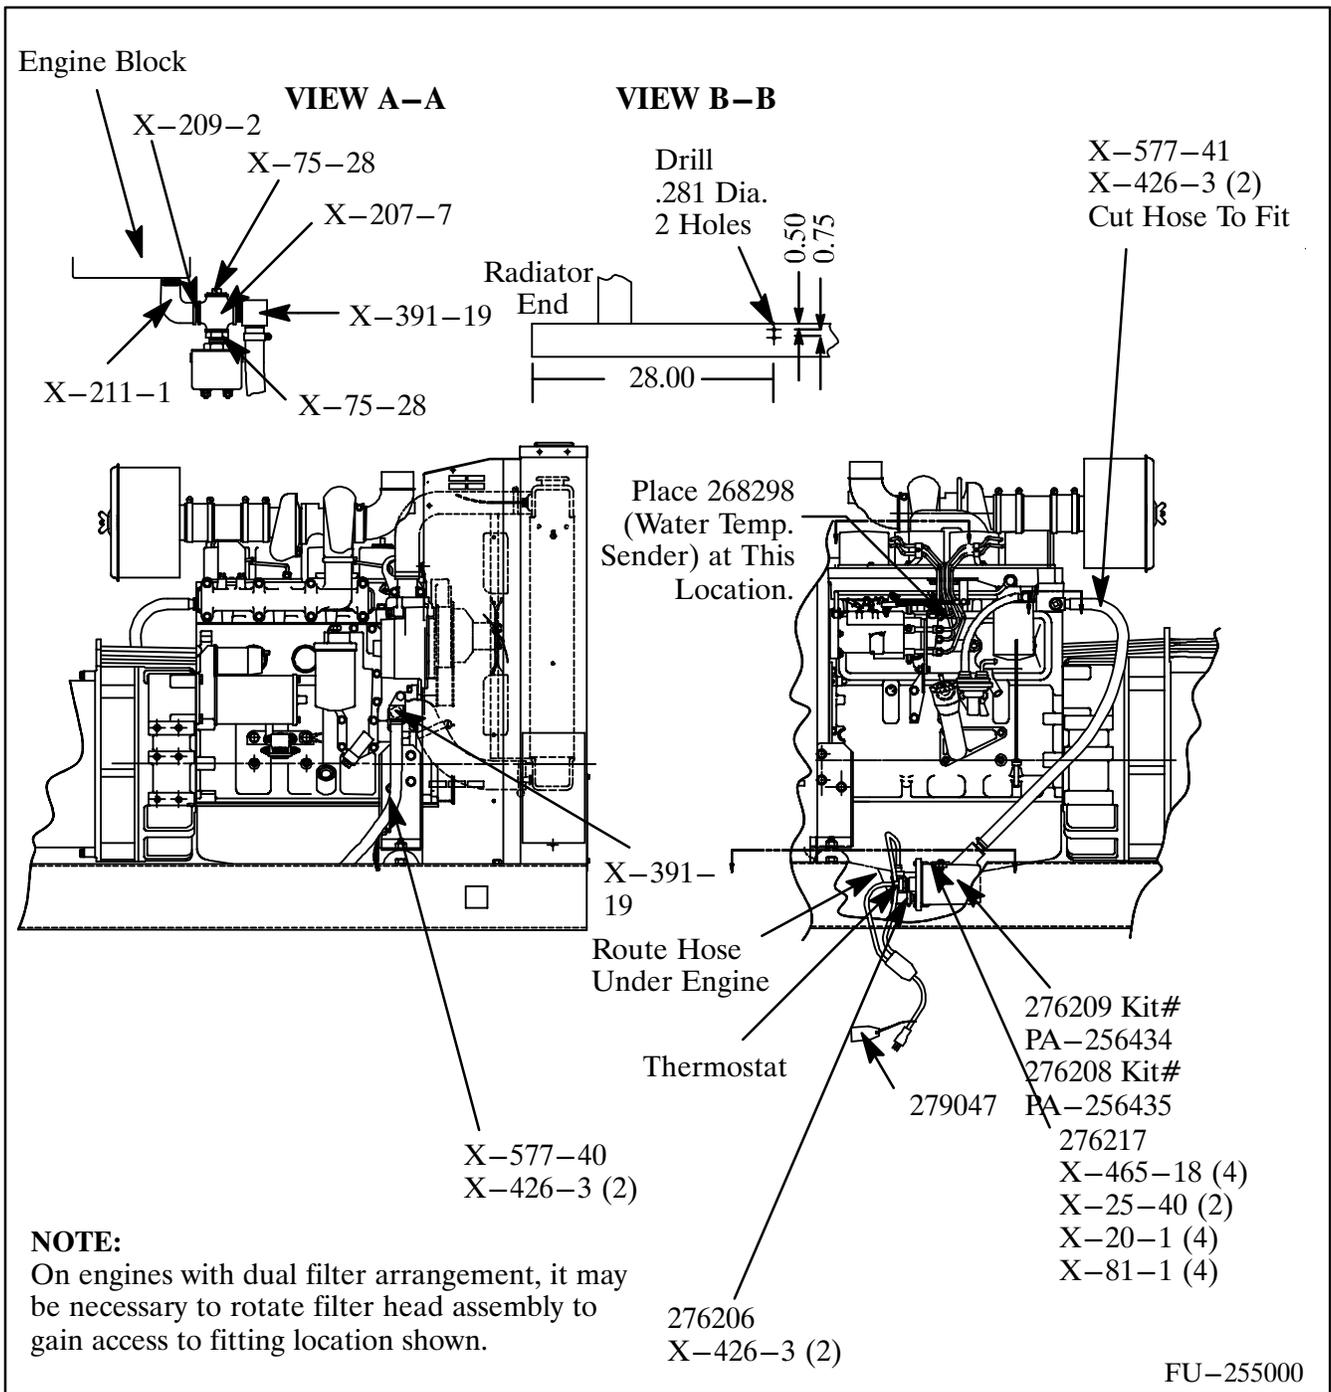

Figure 1. Block Heater Installation (Tank-Type)
3. Remove water temperature sender (268298) and reposition at location shown on Figure 1.
4. Install street elbow (X-211-1), pipe nipple (X-209-2), pipe cross (X-207-7), pipe plugs (X-75-28) on top and bottom of pipe cross, and hose elbow connector (X-391-19) into block where water temperature sender was located. See Figure 1. View A-A.
Early generator sets may not have pre-drilled holes in engine skid. Use bracket as a template and drill two 0.281 dia. holes. Locate holes 28 inches from radiator end of generator. Drill first hole 0.50 inches on skid. Drill second hole 1.25 inches. See Figure 1 (View B-B).
10. Remove 1/2 in. pipe plug or temperature switch from right side of engine at water pump inlet casting. Install hose elbow connector (X-391-19) at this location. See Figure 1.